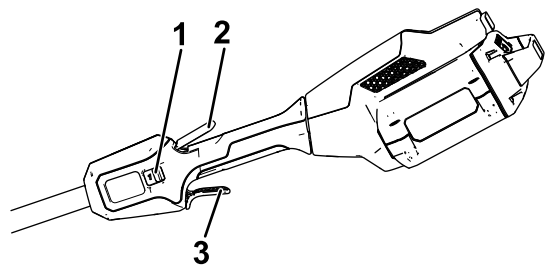

Figure 8
4. To start the trimmer, squeeze the lockout trigger, then squeeze the variable-speed trigger (Figure 8).